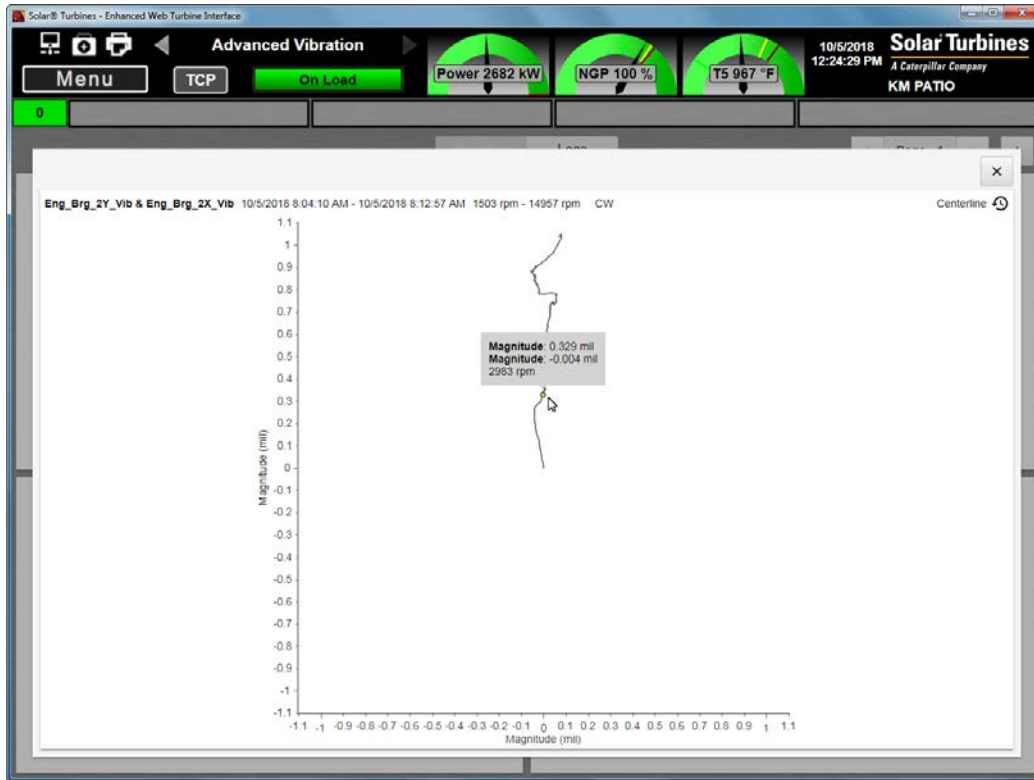

Figure 10. Shaft Centerline Plot
4. The Shaft Centerline plot (Figure 10) shows the gap voltage for paired radial sensors, plotted to show the movement of the shaft relative to its zero-speed location.